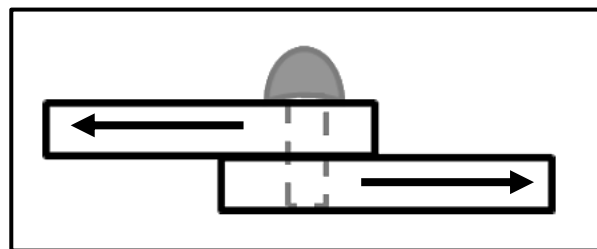

FIGURE 4.13
4.13 Identify the type of force exerted on the rivet in FIGURE 4.13 below when the plates are pulled apart.